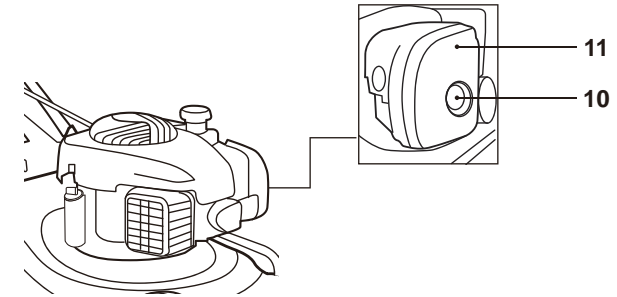

Fig. 17
The primer (10) is positioned in the air filter case (11). Use the primer (10) when starting the product with cold engine (Fig. 17)